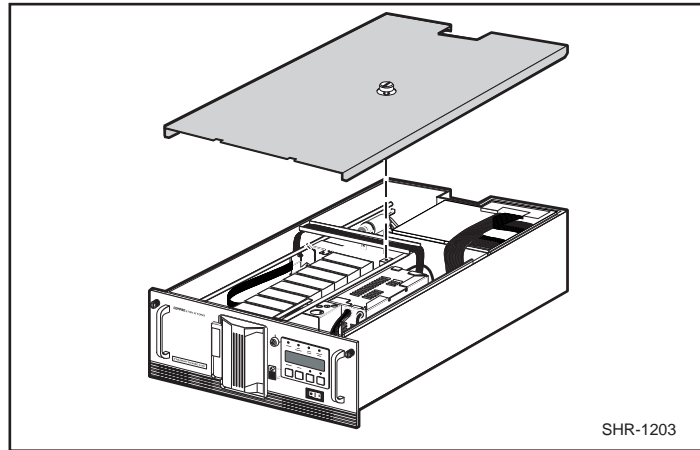

Figure 3. Removing the Cover Plate
3. Unscrew the captive screw in the center of the cover plate (Figure 3).
1. Place the cover plate on the base module so that it overhangs one-half inch at the rear of the module (Figure 3).